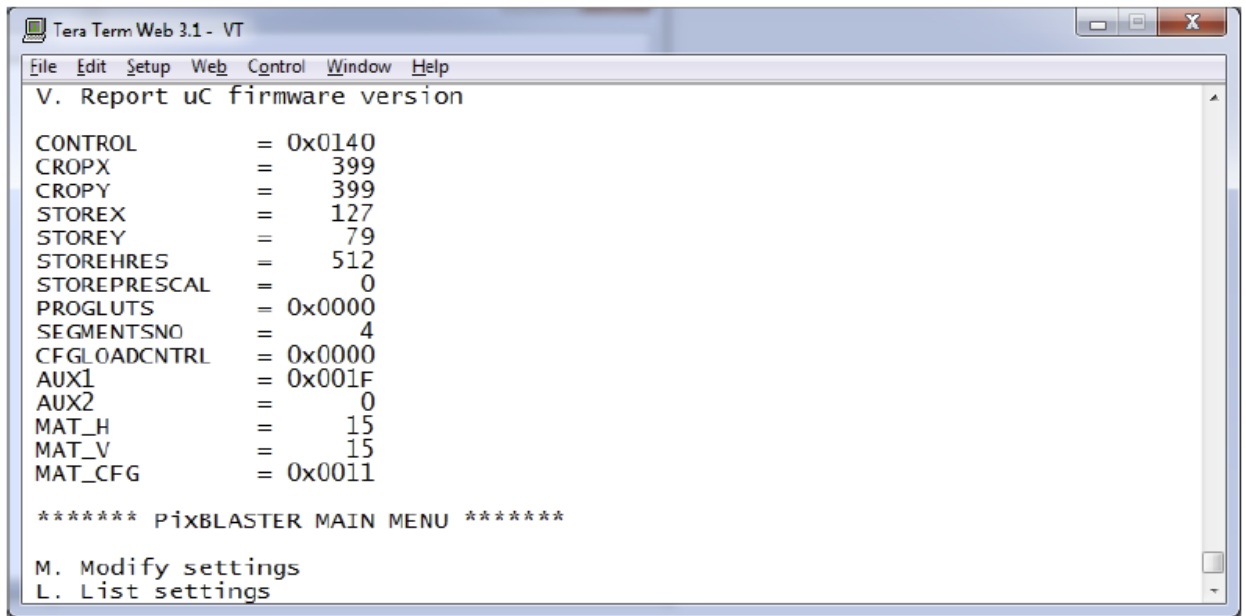

Figure 12. New Values of Internal Registers for 128x80 Display
- Hit 'L' to check the initialization for the targeted 128×80 video display. It should look like shown on Figure 12.